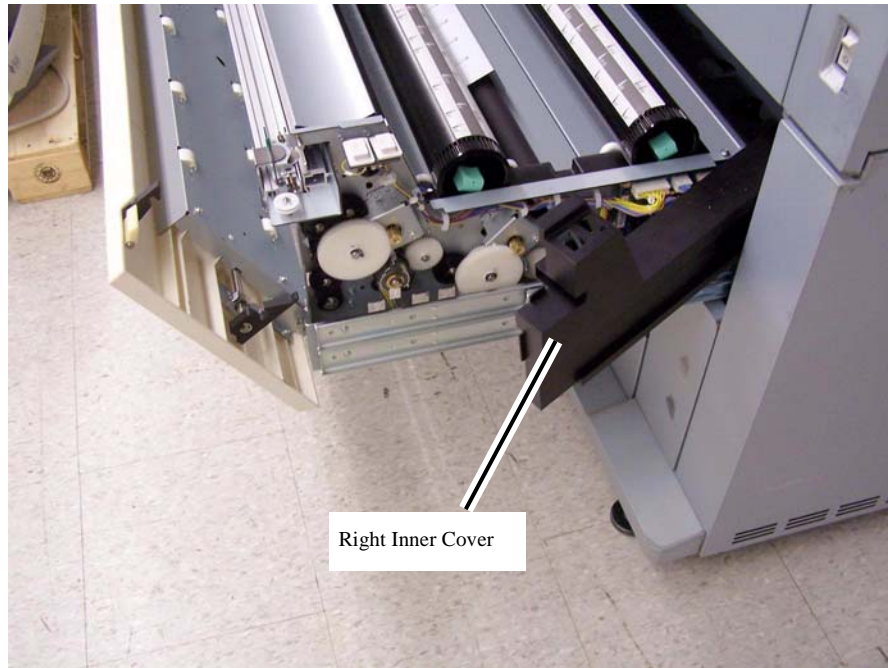

Figure 7 Right Inner Cover repositioned to allow screw removal
9. Remove the Right Inner Cover screws, then pull the cover away from the RFC and slide it along the ribbon cable toward the rear of the machine. Leave it there temporarily (Figure 7).